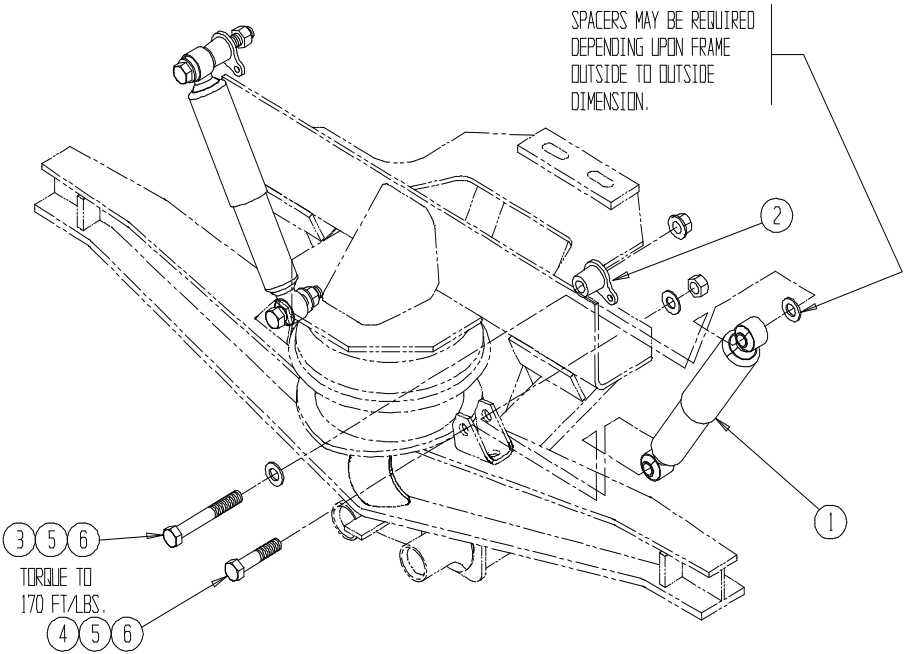
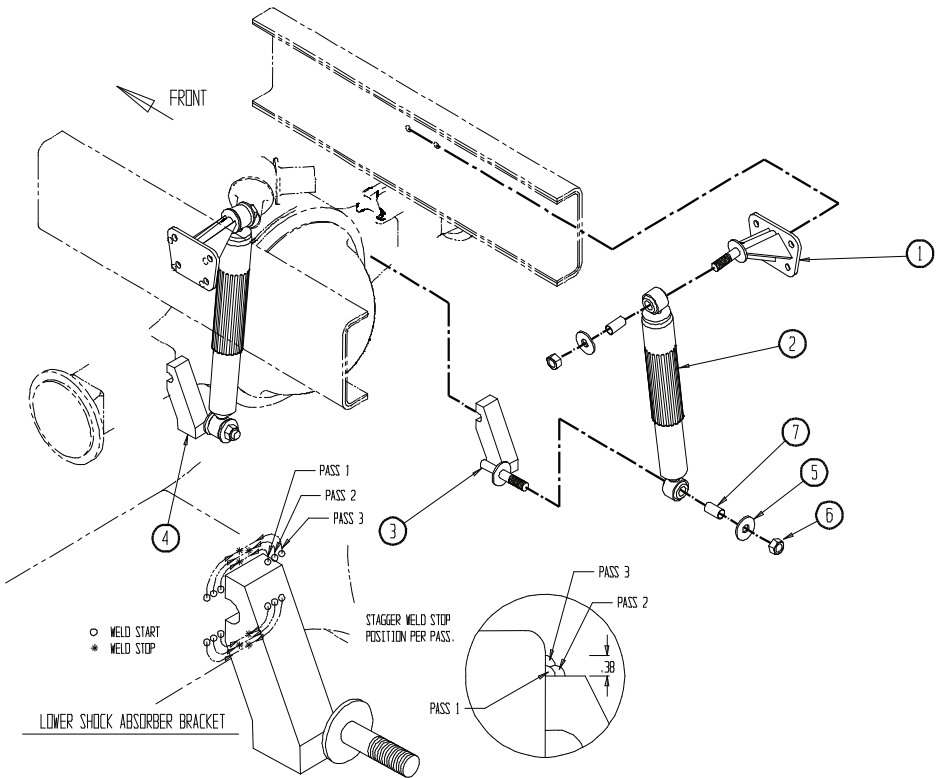

FIGURE 6
FIGURE 7
Shock absorbers are provided on the 800 Series Suspension as an option to provide specific ride properties for different road conditions. The 800 Series Suspension may be fitted with either beam-mounted or axle mounted shock absorbers. See Fig. 6 and Fig. 7. The replacement procedure is essentially the same for both types of shock absorbers.
Refer to Fig. 6 or Fig. 7 to determine which shock absorber option is fitted to your vehicle.
STEP 3 – Place the bottom eye of the replacement shock absorber into the beam bracket. Refer to Fig.6. Install and tighten NEW $\frac{3}{4}$ " NC fasteners and hardened washers.
STEP 3 – Carefully clean and relubricate the top and bottom shock absorber bracket threads. Referring to Fig. 7 install the replacement shock absorber onto the top and bottom shock brackets. Install and tighten NEW $\frac{7}{8}$ " NC locknuts and hardened washers.